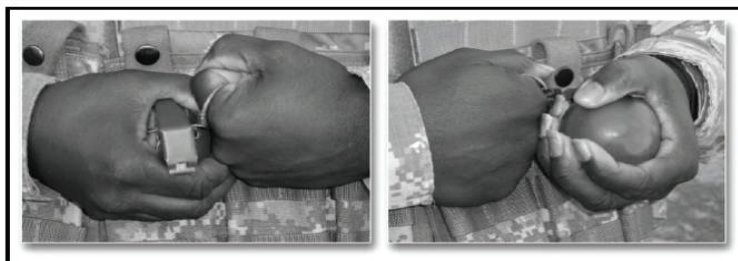

Figure 071-COM-4407-1. Pull ring grip, right/left hand.
c. Insert the index or middle finger of the nonthrowing hand in the pull ring until it reaches the knuckle of the finger (Figure 071-COM-4407-1).